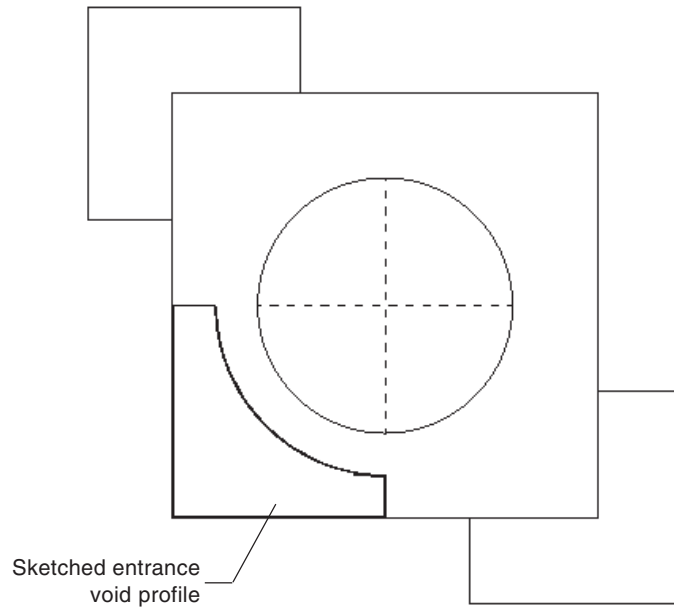

Figure 9-45 *Sketching the cutting geometry*
17. Sketch the profile of the cutting geometry as shown in Figure 9-45.